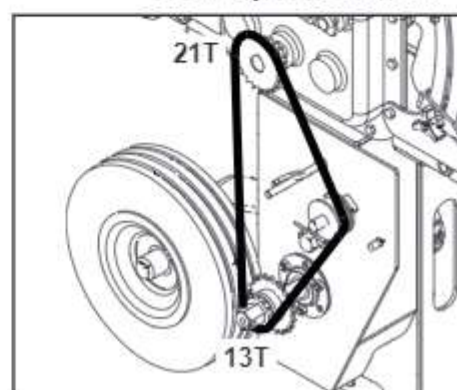

Fig 15
Release the tension on the chain (1) by forcing back the chain tensioner (2) and hold in place with the hook. Refer Figure 15. Remove the chain from the 21 tooth output sprocket to the 13 tooth sprocket, then remove the chain from the 13 tooth gearbox sprocket to the 21 tooth. Check the chain is correctly aligned then release the chain tensioner. Ensure the tension roller is correctly aligned with the chain. Replace guard and calibrate as required.